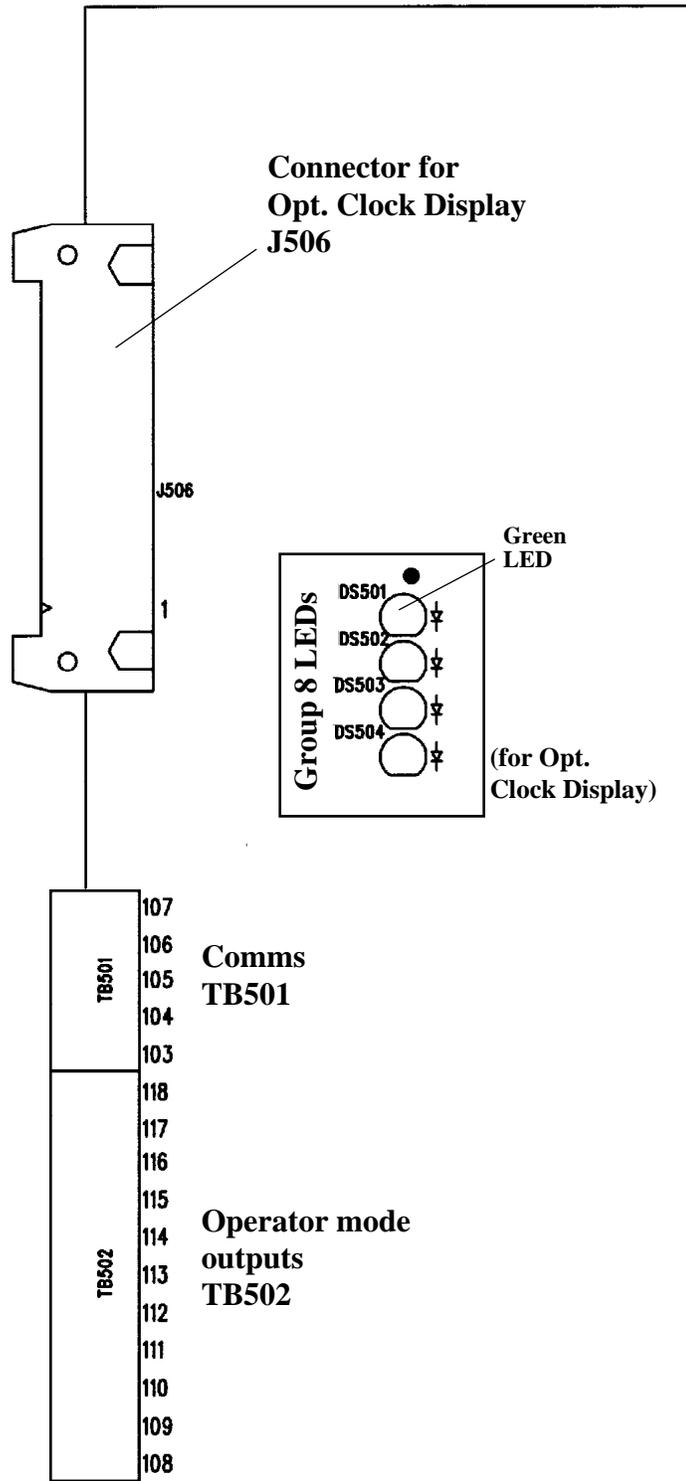

Figure 2-6c. WPC serial interface boardlayout - important components shown and labeled
1. Locate TB104 on the SmartPAC board and TB501 on the WPC Interface Board. See Figure 1 at the end of this manual for wiring and Figure 2-6c earlier in this chapter for the board layout.